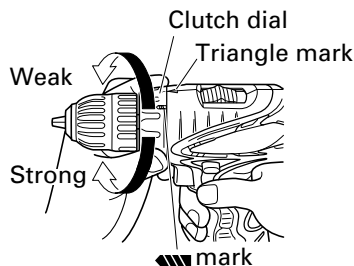

Fig. 16
7. Confirm the clutch dial position (See Fig. 16). The tightening torque of this unit can be adjusted according to the clutch dial position, at which the clutch dial is set.
- (2) Tightening torque indication (See Fig. 16)
- (3) Adjusting the tightening torque (See Fig. 16)